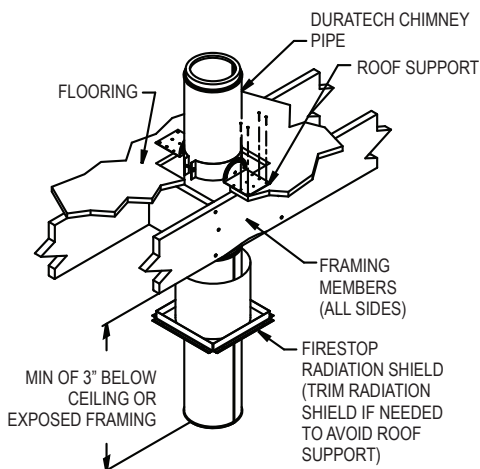

Figure 22
The Roof Support may be used at the bottom of a Chimney installation (**Fig.22**). This may be useful for some basement installations. Maintain a minimum of 2" clearance to combustibles at all times. The DuraTech Chimney needs to extend a minimum of 3" below the finished ceiling or exposed framing members. Please note that you cannot extend the chimney all the way to the appliance - you must use connector pipe.
1. Complete Steps B1-B3 from Roof Support Section. For Step B3, rather than installing the Roof Support on the roof, attach the Roof Support Brackets to floor using (4) 8 penny nails or (4) #8, 1-1/2" screws per side (**Fig.22**).
3. Install a Firestop Radiation Shield below the finished ceiling or framing members. Trim the 'tube' portion of the Firestop Radiation Shield as needed if it interferes with the Roof Support Installation (**Fig.22**).